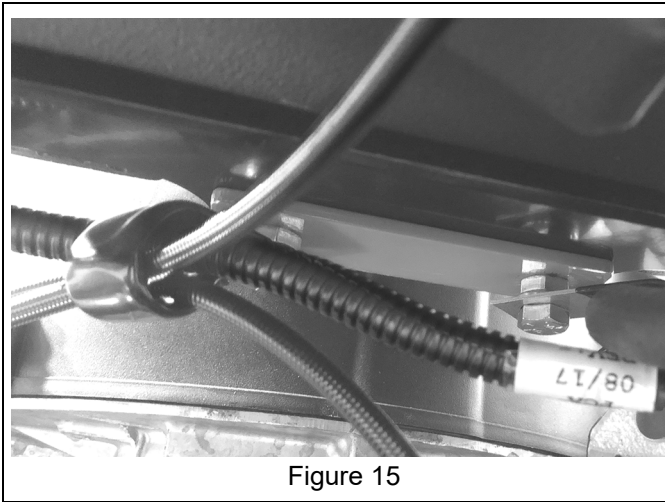

Figure 15
11. Route left headlight harness through clamp retaining throttle and choke cables. See Figure 15.